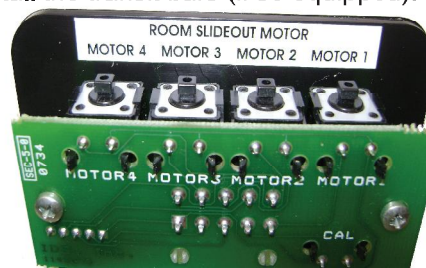

Figure 5
- a. Press and hold the SLIDEOUT room motor buttons (Motor 1, Motor 2, Motor 3, and/or Motor 4) on the back of the wall touchpad (Figure 5) that correspond to the SLIDE OUT motors you want to move. These buttons correspond to the slideout room motors only and NOT the room lock motors.
- a. Press and hold all SLIDEOUT motor buttons ( Motor1, Motor 2, Motor 3, and Motor 4) on the back of the wall touchpad. (Figure 5)